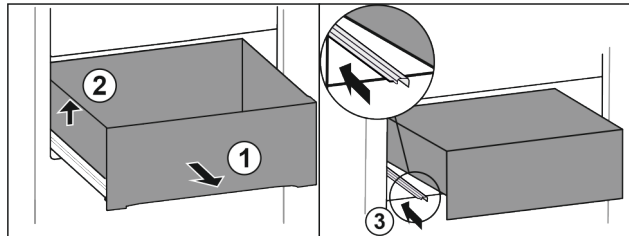

Fig. 16
- ▶ Pull out drawer as far as it will go. Fig. 16 (1)
- ▶ Lift drawer on the left. Fig. 16 (2)
- ▶ Insert left rail. Fig. 16 (3)